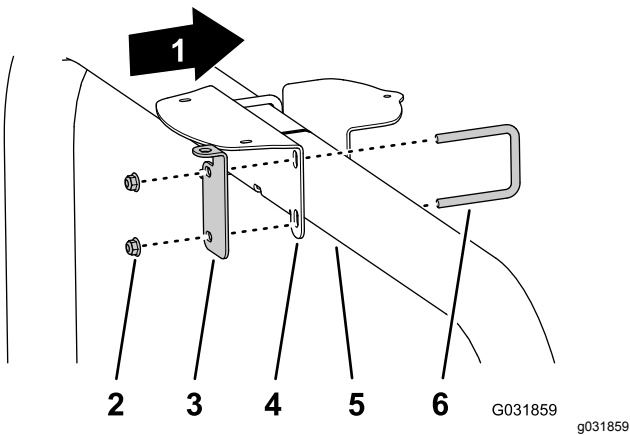

Figure 125
- If your machine has GNSS and the CDMA or GSM RTK correction modem kit, assemble the receiver mount and RTK-antenna bracket to the ROPS tube (Figure 125) with the 2 U-bolts and 4 flange locknuts (3/8 inch).